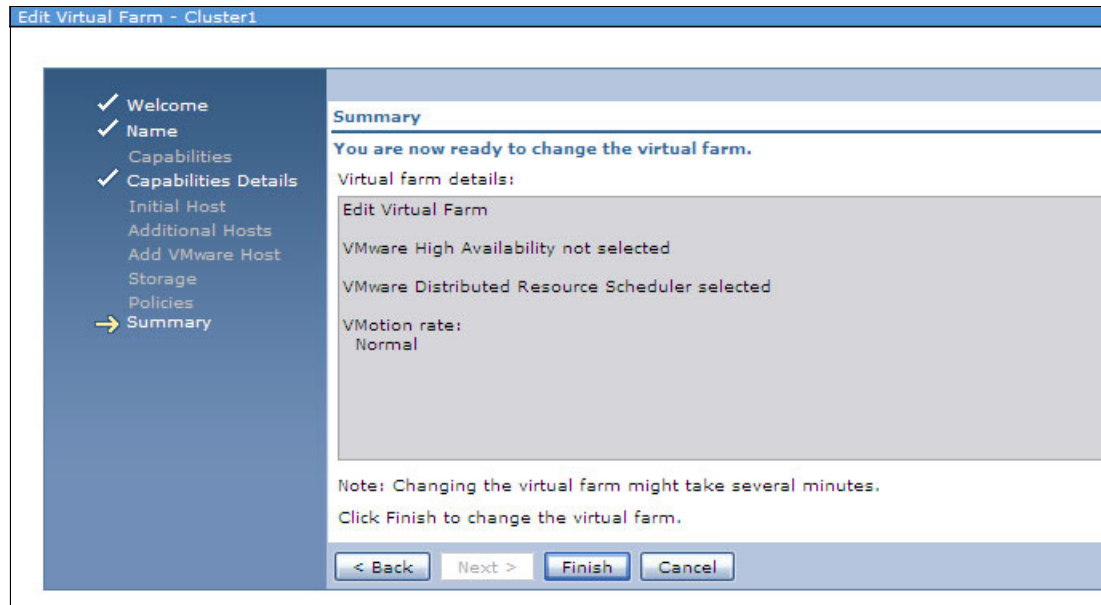

Figure 11-53 Edit Virtual Farm Summary window
6. Review the Summary window and click **Finish**, as shown in Figure 11-53.